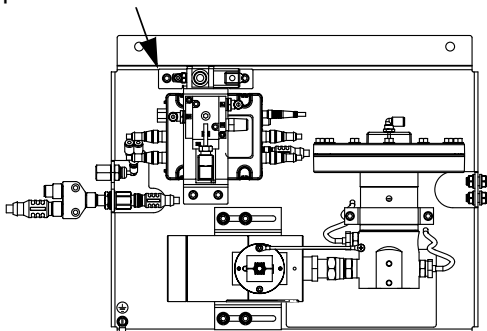

FIG. 36: Dispense Valve Air Solenoid
4. If the dispense valve cannot be actuated from the control center, refer to FIG. 36 and perform the following steps to open the dispense valve and relieve fluid pressure:
- a. Manually actuate the plunger on the solenoid to open all dispense valves attached to this fluid plate and relieve fluid pressure. See FIG. 36.